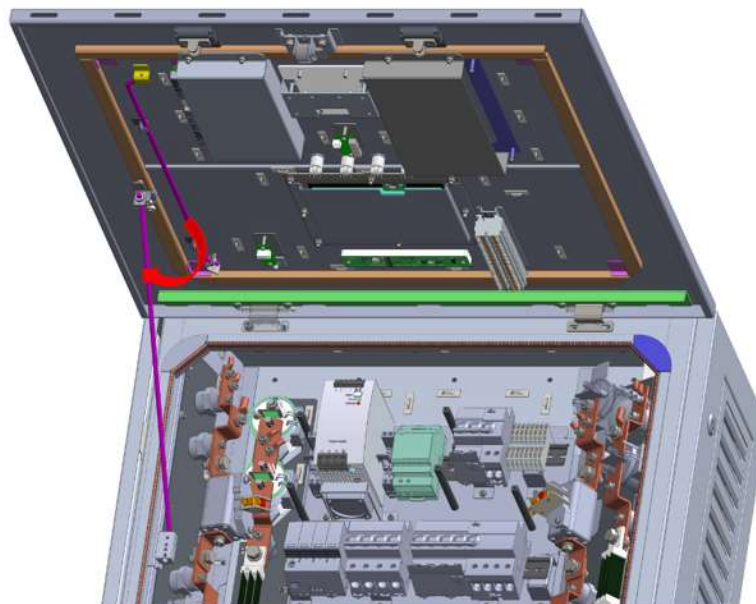

Figure 13 Open the front door
(6) Open the front door from the bottom of the charger main body, remove the brace and prop up the front door, as shown in Figure 13.